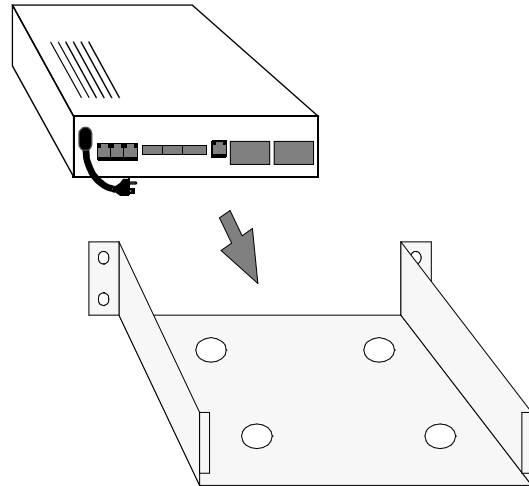

Figure 2-1 Rack Mount Installation
1. Insert the PRISM 3101/3102 (rear first) into the casing as shown in Figure 2-1.